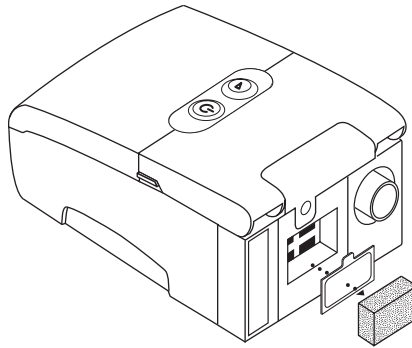

FIGURE 7-1 REMOVING THE FILTERS
2. Remove each filter from the enclosure by gently squeezing the filter in the center and pulling it away from the device, as shown in Figure 7-1.